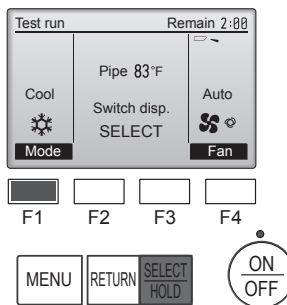

Fig. 7-3
1. Press the [F1] button to change the operation mode. (Fig. 7-3)